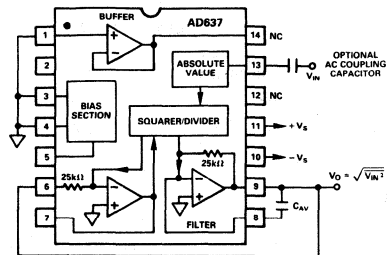

Figure 2. Standard RMS Connection
- Accuracy specified 0-7V rms dc with AD637 connected as shown in Figure 2.
The AD637 is simple to connect for a majority of rms measurements. In the standard rms connection shown in Figure 2, only a single external capacitor is required to set the averaging time constant. In this configuration, the AD637 will compute the true rms of any input signal. An averaging error, the magnitude of which will be dependent on the value of the averaging capacitor, will be present at low frequencies. For example, if the filter capacitor  $C_{AV}$ , is 4 $\mu$ F this error will be 0.1% at 10Hz and increases to 1% at 3Hz. If it is desired to measure only ac signals the
AD637 can be ac coupled through the addition of a nonpolar capacitor in series with the input as shown in Figure 2.